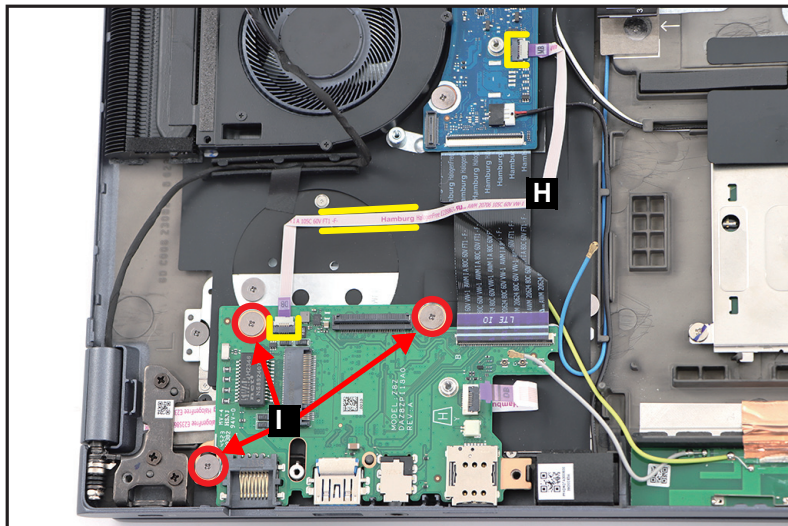

Figure 1-48. LTE Board Removal
8. Disconnect the P-sensor FFC (H) from the LTE board and mainboard connectors. Then carefully detach the FFC from its underneath adhesive (highlighted by the yellow lines) (Figure 1-48). Remove the P-sensor FFC.
9. Remove three (3) screws (I) securing the LTE board (Figure 1-48).